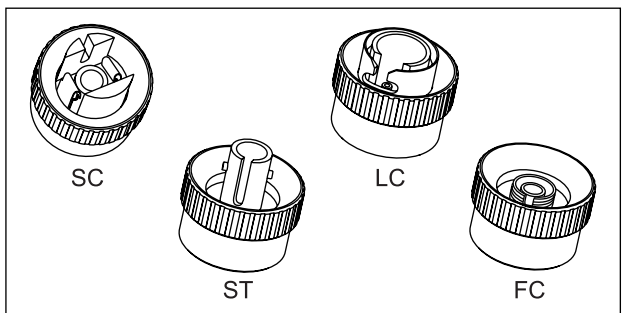

Figure 8-3. SC, ST, LC, and FC Connector Adapters
① Button for activating the visual fault locator (2) and output port (4). See Chapter 9 and “Autotest in Far End Source Mode” on page 8-18.
② Universal fiber connector (with dust cap) for the visual fault locator output. The connector accepts 2.5 mm ferrules. The LED below the connector indicates the locator’s mode (continuous or blinking).
③ Input connector with dust cap. Receives optical signals for loss, length, and power measurements. You can change the connector adapter to match the connectors on the fiber under test. See Figure 8-3.
④ SC output connector with dust cap. Transmits optical signals for loss and length measurements.
You can change the fiber module's input connector adapter to connect to SC, ST, LC, and FC fiber connectors (Figure 8-3). Additional adapter styles may be available. Check the Fluke Networks web site for updates.